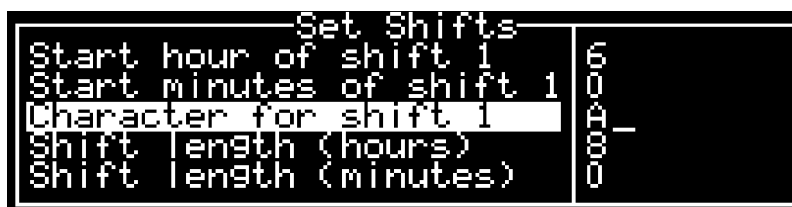

Fig 9.9 Set Shifts sub-menu
44.1 Access the **C**onfigure menu, select Set Shifts and press **↵**. The Set Shifts sub-menu (Fig 9.9) will be displayed.